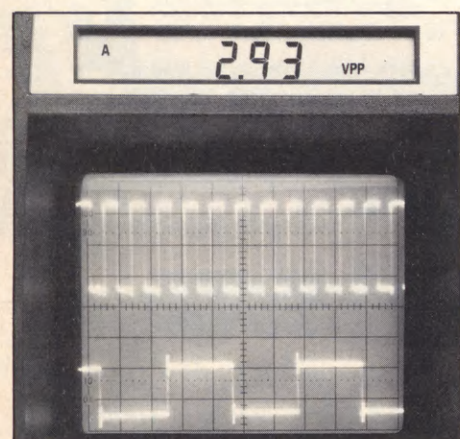

Fig. 1: Digitally accurate peak-to-peak measurements for either channel are available at the push of a button.
- Change the input signal's level, and let the students see on both the scope display and the digital display that as the waveform changes in size, the peak-to-peak level changes accordingly (Figure 1).